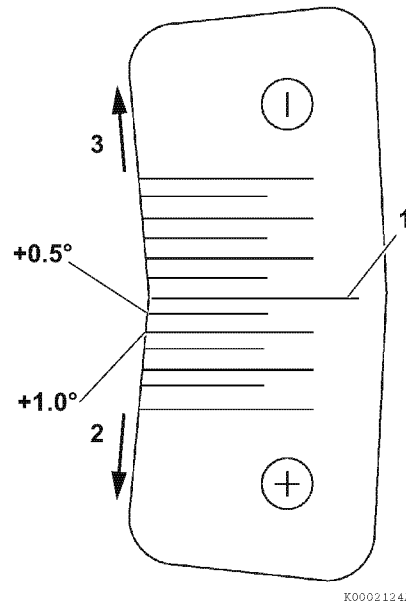

Figure 7-25
- If the difference between the timing index numbers is a positive number, the fuel injection pump mounting position must be advanced (**Figure 7-25, (2)**) (rotated away from the engine) as compared to the “standard mark” (**Figure 7-25, (1)**) by the calculated positive amount, adjust the fuel injection pump to the calculated value.
- If the difference between the timing index numbers is a negative number, the replacement injection pump must be retarded (**Figure 7-25, (3)**) (rotated toward the engine) by the calculated negative amount.
The above calculated difference indicates that the replacement fuel injection pump is to be installed at +0.5° (advanced) from the “Standard Mark” (**Figure 7-25, (1)**) on the timing sticker.